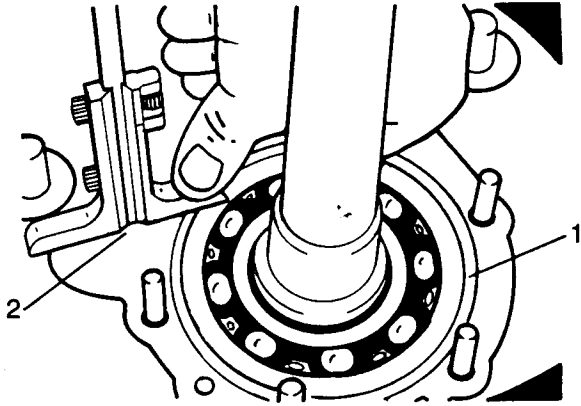

Fig H1.28
- (1) Refer to Fig H1.28. Make sure that the spring ring (1) for the primary shaft bearing butts up against the inside frontal face of the clutch housing.
- (2) Measure the part that overlaps the exterior track of the bearing, relative to the frontal interior face of the clutch housing (2).